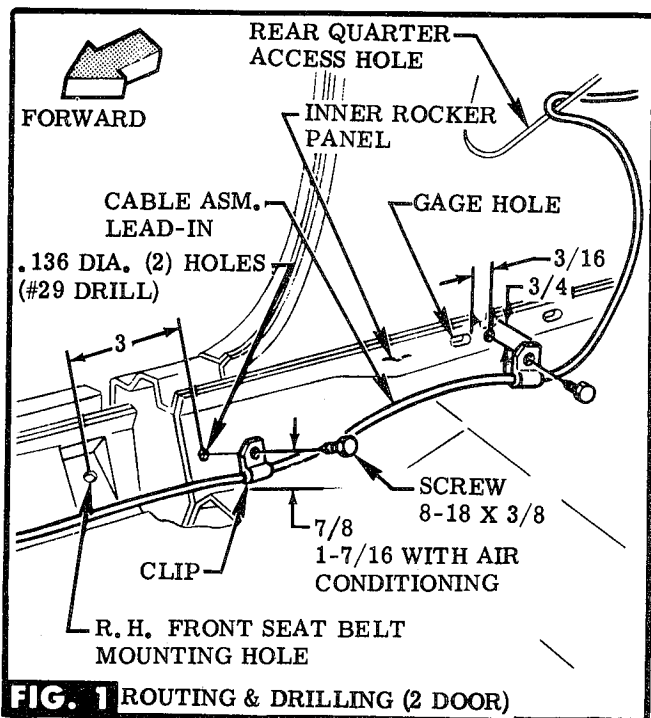

FIG. 1 ROUTING & DRILLING (2 DOOR)
STEP 2 (2 DOOR) ROUTE CABLE ASM. FROM HOLE IN UPPER BAFFLE PLATE THRU REAR QUARTER ACCESS HOLE & DOWN TO FLOOR PAN AREA. CONTINUE ROUTING CABLE ALONG INNER ROCKER PANEL TO FRONT OF VEHICLE. LOCATE, CENTERPUNCH & DRILL NECESSARY HOLES (2) FOR CLIP ATTACHMENT. POSITION CLIPS OVER CABLE ASM. & ATTACH TO INNER ROCKER PANEL WITH SCREWS. SEE FIG. 1.